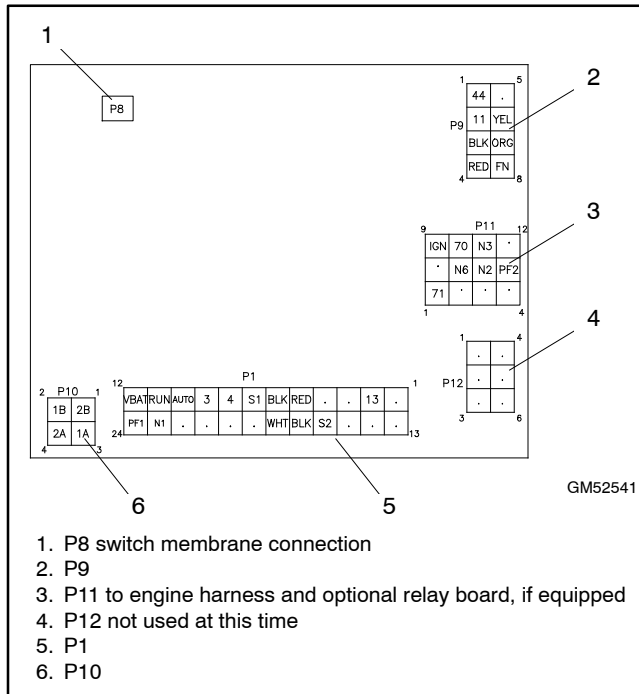

Figure 5-24 Controller Logic Board Connections
- Note the connections on the logic board, and then disconnect. See Figure 5-24.